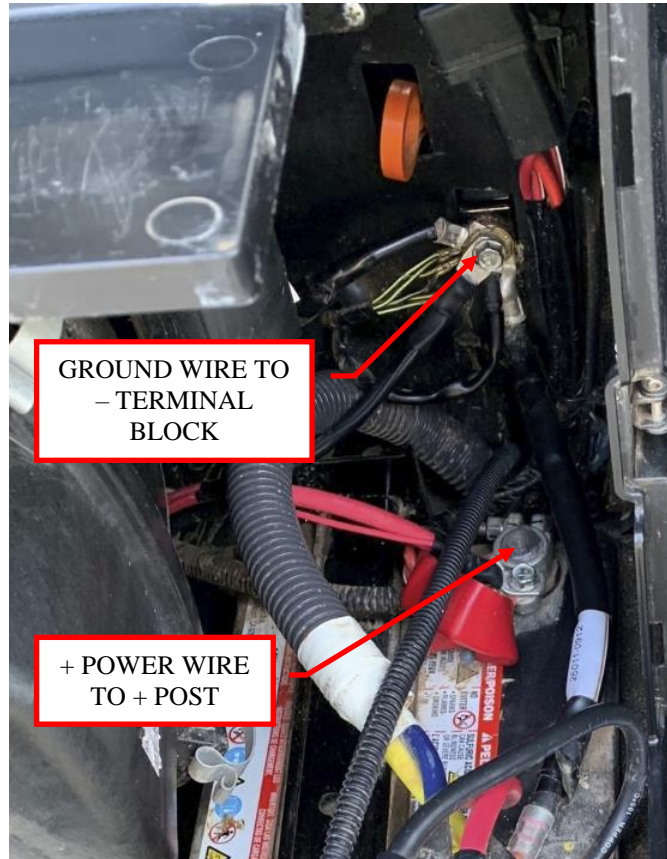

Figure 17: Attach the main power / ground wire.
18. Connect the red power wire to the positive terminal of the battery. Connect the black ground wire to the negative terminal block. Re-use the factory hardware. See Figure 17.